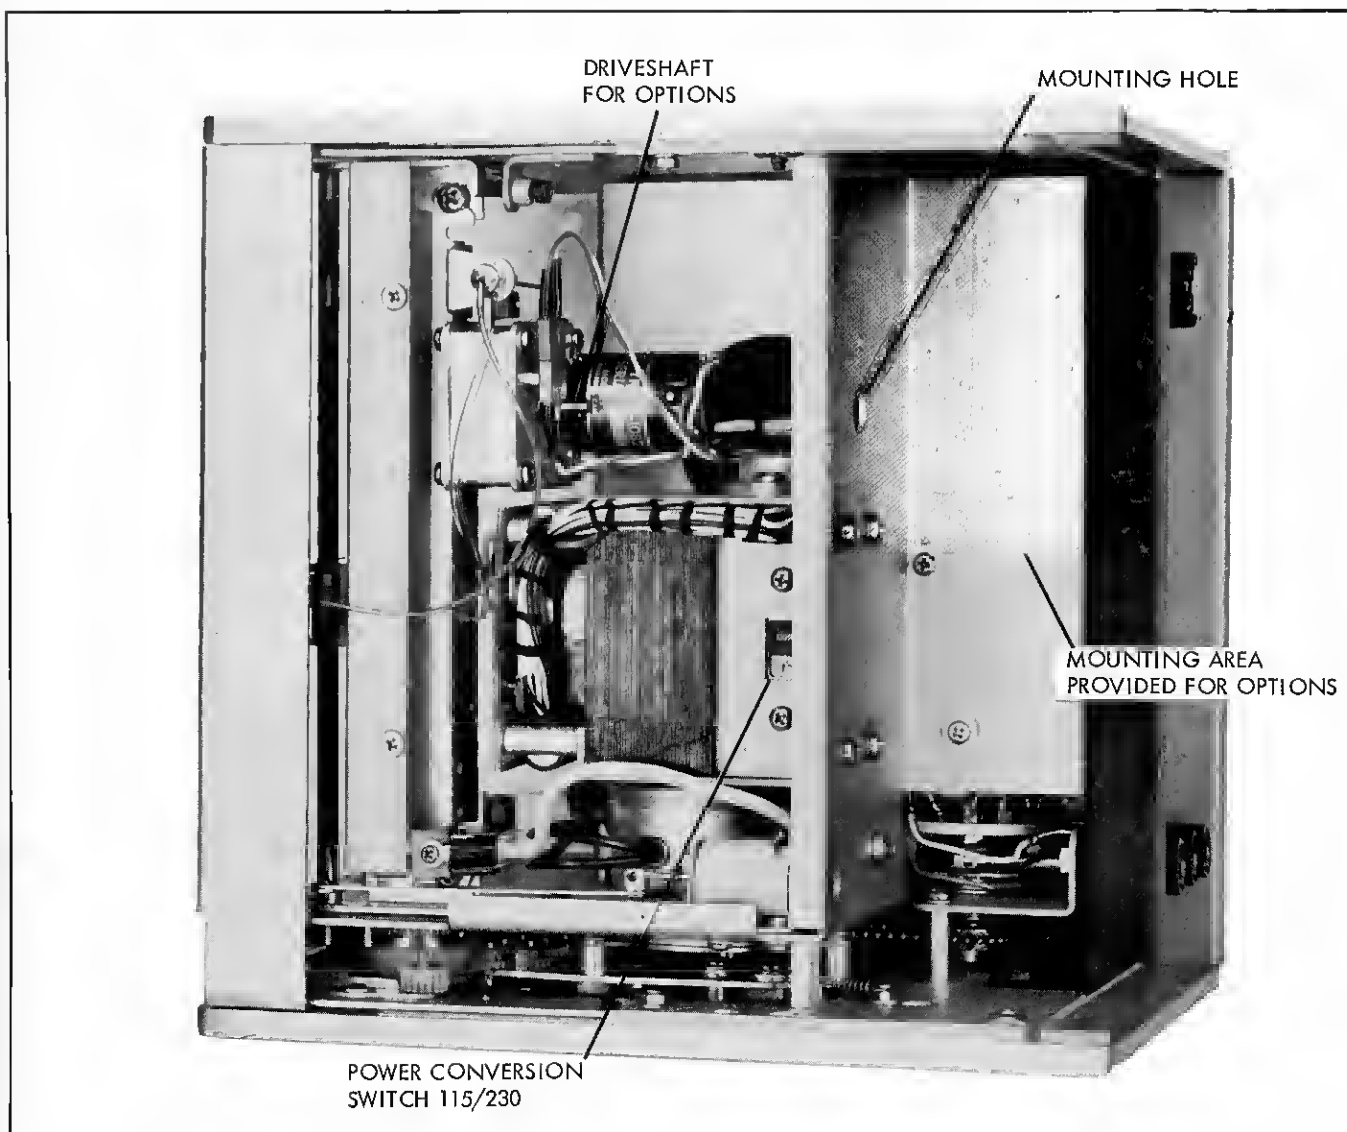

FIGURE 2-2. TOP VIEW OF RECORDER
**NOTE:** A mounting hole and adequate space are provided in the top rear of the recorder for acceptance of these accessories. See figure 2-2.